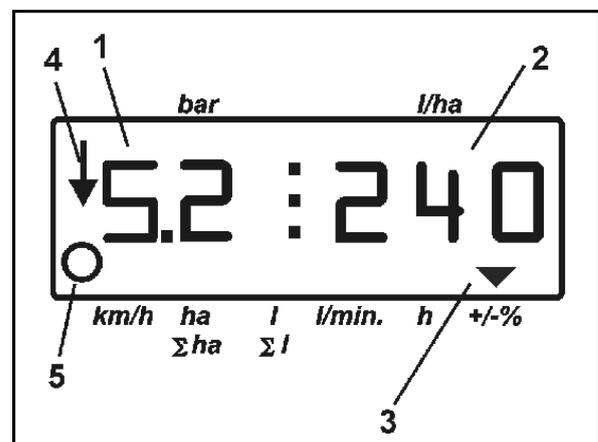

Fig. 13
- During the spraying operation the operational display is shown. Fig. 13/...
- Spray pressure (1)
- Actual application rate (2)
- Machine in operational position (4)
- Machine travels along the distance (5)
- During the spraying operation the display manual change of the required amount via  or  (3) in 10% increments.